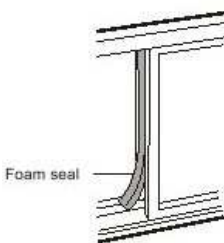

Fig.11
4. Trim the last foam seal to the proper length to seal the open gap between the two window sashes. (Fig.11)